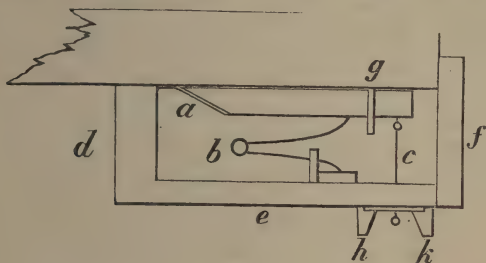
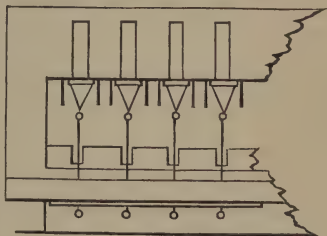

Fig. 13.
Fig. 14.
Fig. 13 is a transverse section of the wind-chest, in which *a* is the pallet, held up by *b*, the spring, and drawn down by *c*, the wire. Part of the sound-board is shown above, also in section, as will be easily comprehended; and Fig. 14 is a view of part of the interior of the wind-chest when the front board is removed, four of the grooves being shown in section.
The back of the chest, called the “wind-bar,” *d*, Fig. 13, should be of strong and sound stuff, oak or mahogany, as it greatly helps to strengthen the whole sound-board and to bear the weight of the pipes. The corners should be dovetailed, or otherwise well and firmly jointed. These three pieces, the two cheeks and the back or wind-bar, will now be attached to the sound-board with glue and screws, to be separated from it no more; but the bottom, *e* (of 1-inch pine), will be fixed on with screws only, strips of soft white leather being interposed between the surfaces to ensure air-tightness;
4. Prepare the pallets from clean and very dry pine. Every pallet will be at least  $\frac{1}{4}$  inch wider than its channel, that it may have not less than  $\frac{1}{8}$  inch of overlapping or margin on each side, and it will have more than this space to spare at each end. The pallets will be separated from each other when finally put in by stout pins of iron or brass, driven into the bars *g*, Fig. 13 and Fig. 14. Two such pins may be necessary between many of the pallets if the plan of your sound-board has given unusual thickness to some of the bars, and therefore unusual spaces between the pallets.
— 7. The springs, see Fig. 13, are now commonly of steel, which has extensively superseded brass, in consequence of the deterioration to which the latter metal is subject. We are bound to say, however, that we have used springs of best brass wire, even of late years, without any disappointing results, and that sets of such brass springs are, to our knowledge, as efficient as ever after thirty or forty years of constant use. But it is undeniable that the brass wire now procurable is subject to a change under the influence of damp and (it is said) under that of the fumes of gas, which renders it brittle and quite useless for purposes which require flexibility. Springs certainly cannot be made from wire so spoilt; but, as we have said, when once made from new wire, they may continue in use for periods practically unlimited.
The builders prevent this escape and hissing by fitting two long slips or tringles of wood (see *h*, *k*, Fig. 13) along the two edges of the plate with glue and brads, or screws. These slips press the plate closely to the board throughout its entire length, and they protect from injury at the same time the rings of the pull-downs, which might easily be bent and distorted.